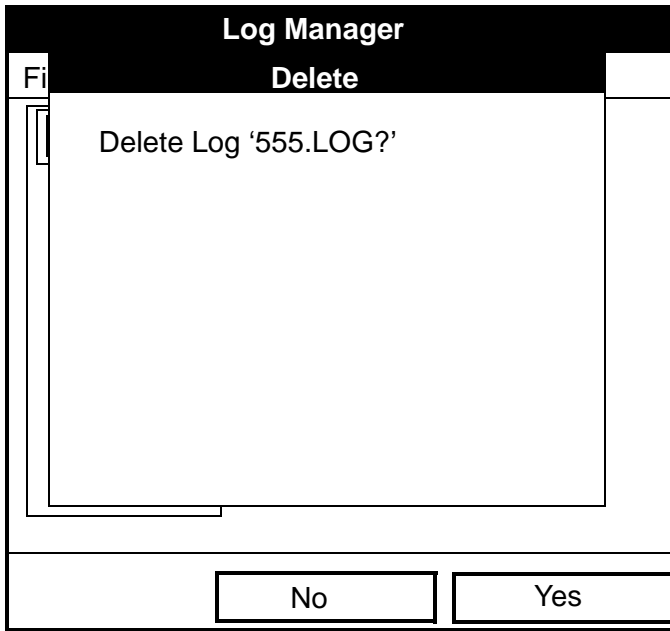

Figure 95: Delete Confirmation Window
3. A delete confirmation window opens, as shown in Figure 95 on page 142. Press [F2] (No) to stop the deletion, or [F3] (Yes) to delete the log.